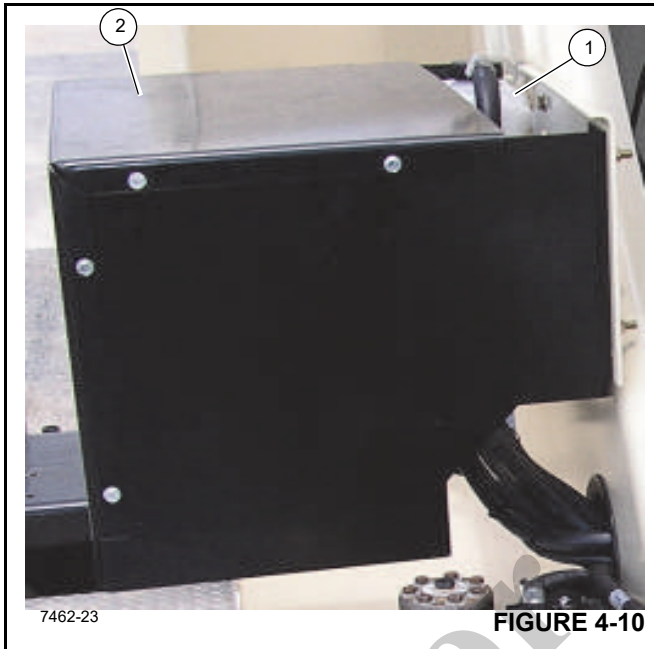

FIGURE 4-10
Heater coolant bottle (1, Figure 4-10) is mounted to turret and located inside a/c compressor enclosure (2). Coolant should contain at a minimum a mixture of water and enough antifreeze to prevent freezing or slushing.